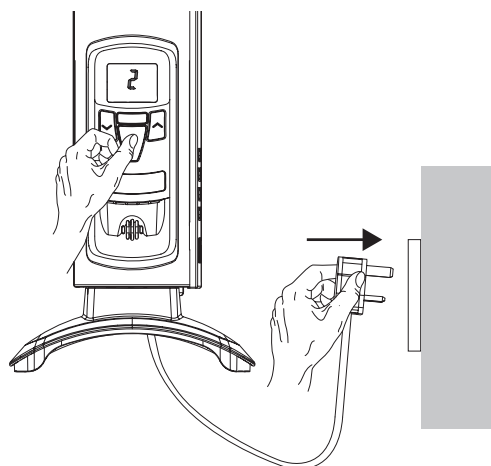

Fig. 7
1. The product must be first switched off and then switched on, this can be done by plugging in the appliance - see Fig. 7 or by switching it on at an isolator switch. At the same time press and hold the  key for at least 2 seconds after main power is applied.